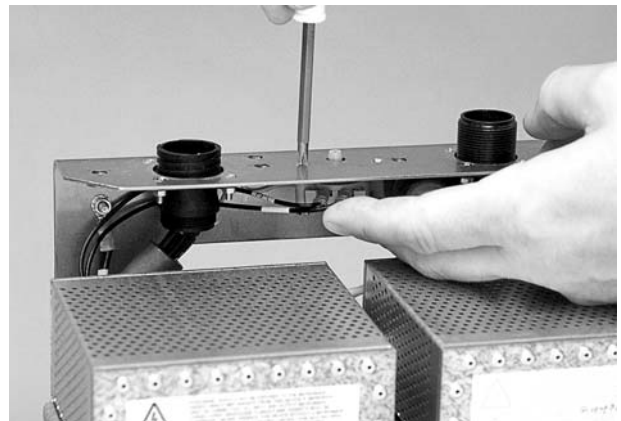

Figure 4-13 Pressure Switch Removal
- See Figure 4-13. Remove the screws securing the pressure switch to the insulating plate.